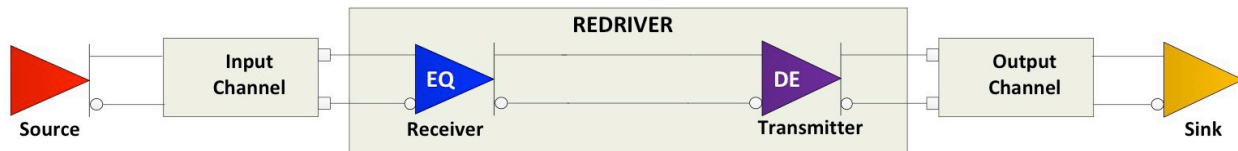

Figure 6. Example of a redriver concept.
A redriver, as shown in **Figure 6**, has a receiver and a transmitter. On the receiver side, it performs signal conditioning through its equalizer (EQ) function. Essentially, the redriver provides compensation for input channel loss which, if not equalized, leads to extra deterministic jitter. The equalized signal is then driven out by the transmitter. The transmitter also can have the option of de-emphasis (DE) or pre-emphasis (PE). DE is essentially the attenuation of the signal's low-frequency components, PE is the boosting up of the signal's high-frequency components. Both techniques pre-compensate for the loss of the output channel connected to the redriver's transmitter side.